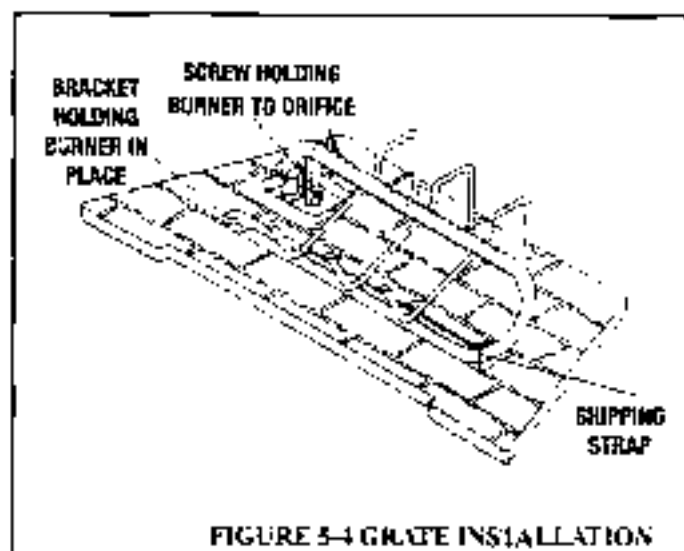

FIGURE 5-4 GRATE INSTALLATION
1. Remove the burner from the hearth by removing the shipping strap and the screw securing the burner to the orifice. Refer to Figure 5-4.
4. Reinstall the screw securing the burner to the orifice. Refer to Figure 5-4.